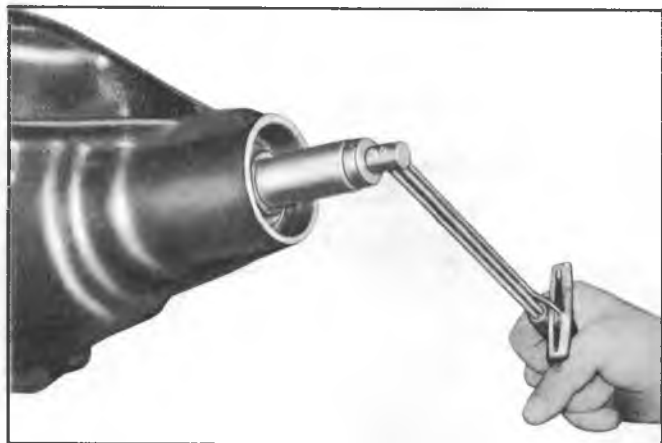

Fig. 13B—Measuring Drive Pinion Bearing Rotating Torque
- a. Tighten hex nut until 20 in lbs. of torque is required to rotate bearings. See Figure 13B.